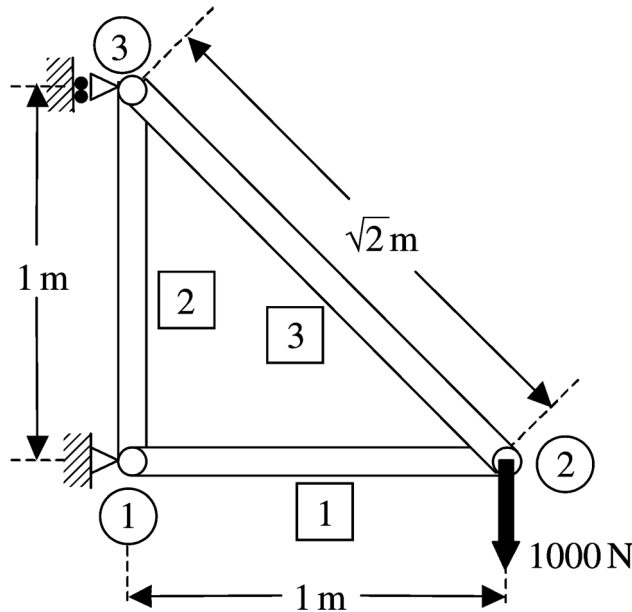

Figure 3 A three member truss structure [2]
Problem: Consider the 2D plain truss structure shown in Figure 3 [2]. This Structure consists of three planar truss members. A vertical downward force of 1000 N is applied at node 2. Table 1 demonstrates the material properties and dimensions of the truss members in the structure.
- To define applied loads, click on the **Create Load** button. In the appeared dialog box (Figure 18), choose **Mechanical** as the category, and select the **Concentrated force** due to the problem definition (Figure 3). Then click on **Continue**. Note that the other types of mechanical load can be selected, if needed. For instance, Line load or Pressure can be chosen to define distributed forces in 2D and 3D problems, respectively.